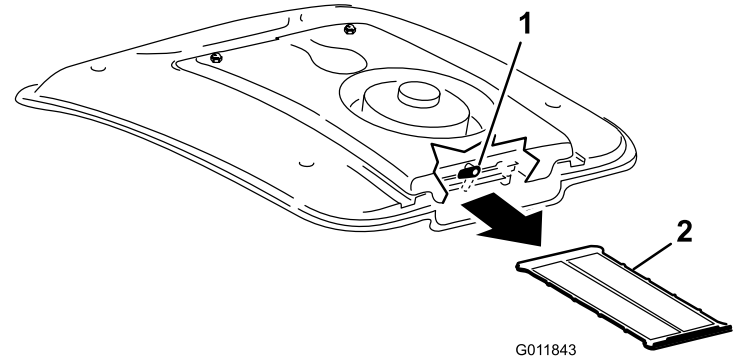

Figure 105
2. On the rear of the fan mount, rotate the latch to the side (Figure 105).
3. Slide the A/C screen out from under the air conditioning coil (Figure 105).
4. Clean the screen thoroughly with compressed air (Figure 105).